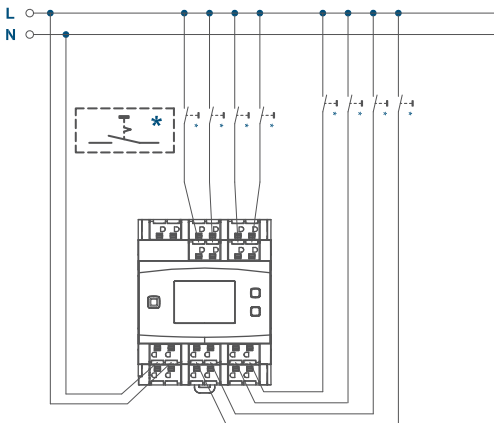

Figure 6
- To enable power supply for the blind actuator, connect the neutral conductor to terminal K and the phase conductor to terminal J (see figure 6). You can connect any types of phase conductors (L1, L2, L3).
- Connect the phase conductor for the selected channel to the corresponding terminal (G) (see figure 6). Any types of phase conductors (L1, L2, L3) can be connected to the power input terminals.